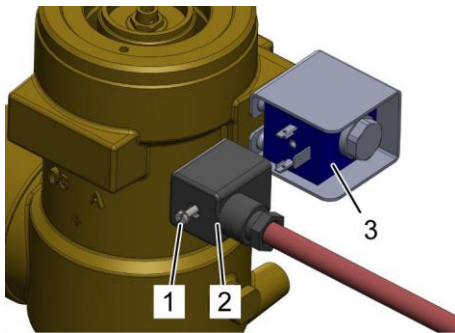

Fig. 175: Check the coil
9. ➔ Plug the plug (Fig. 175/2) onto the coil (Fig. 175/3) of the valve and secure with the screw (Fig. 175/1).